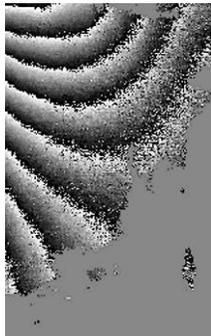

Figure 4.1 Noisy Phase Image
- An extremely noisy grayscale signal appears in the phase image. (**Figure 4.1**)